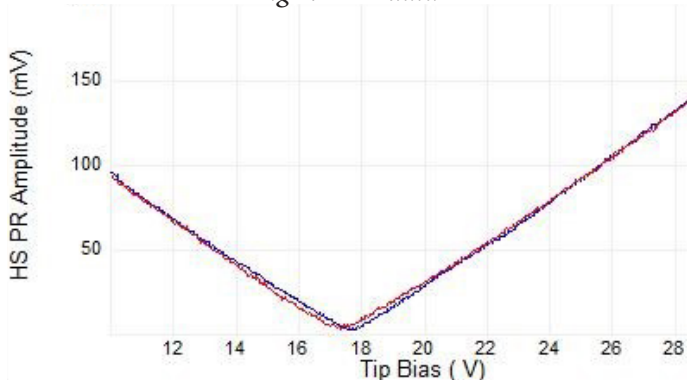

Fig 5: Roughness of 0.08nm on sputtered film
- Measure sample surface roughness at high resolution [Fig. 5]